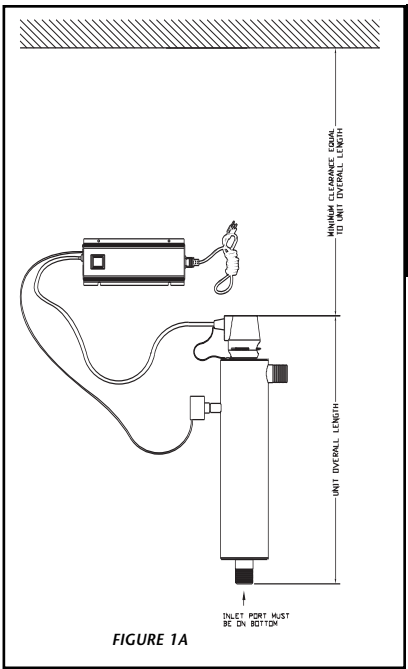
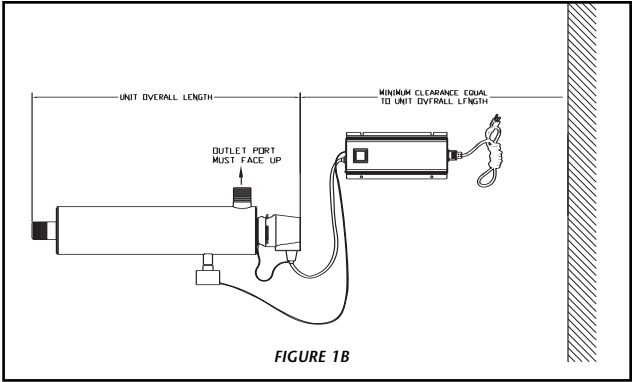

FIGURE 1A
FIGURE 1B
2. Select a suitable location for the disinfection system and its related components. As it is recommended to install a ground fault protected circuit (GFCI), make sure that this is taken into consideration prior to any installation. The system can either be installed vertically (inlet port at the bottom) (Figure 1a), or horizontally (Figure 1b), however the vertical installation is the most preferred method. When selecting a mounting location, you must also leave enough space to allow for the removal of the UV lamp and/or quartz sleeve (typically leave a space equal to the size of the reactor chamber itself).